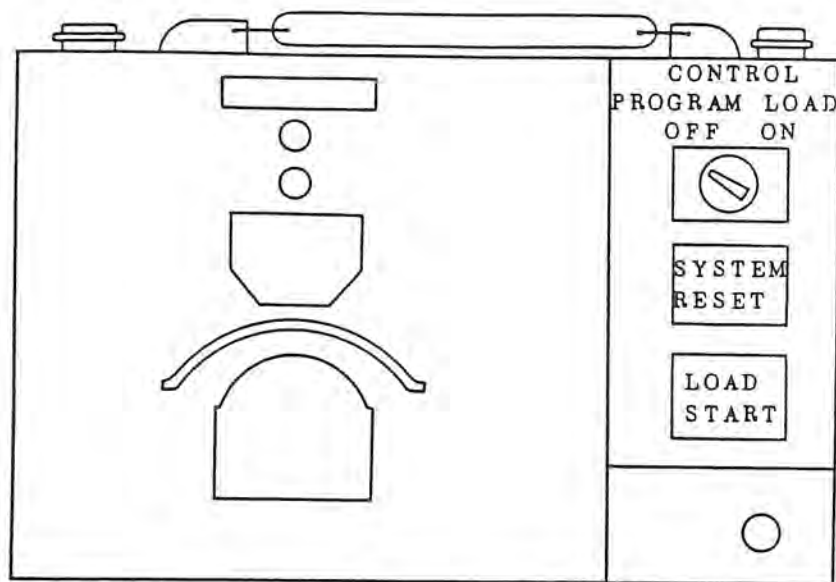

Fig. 5-13 Portable Tape Reader
- 4) Turn the CONTROL PROGRAM LOAD ON/OFF switch on the portable tape reader to the ON position. Refer to Fig. 5-13.